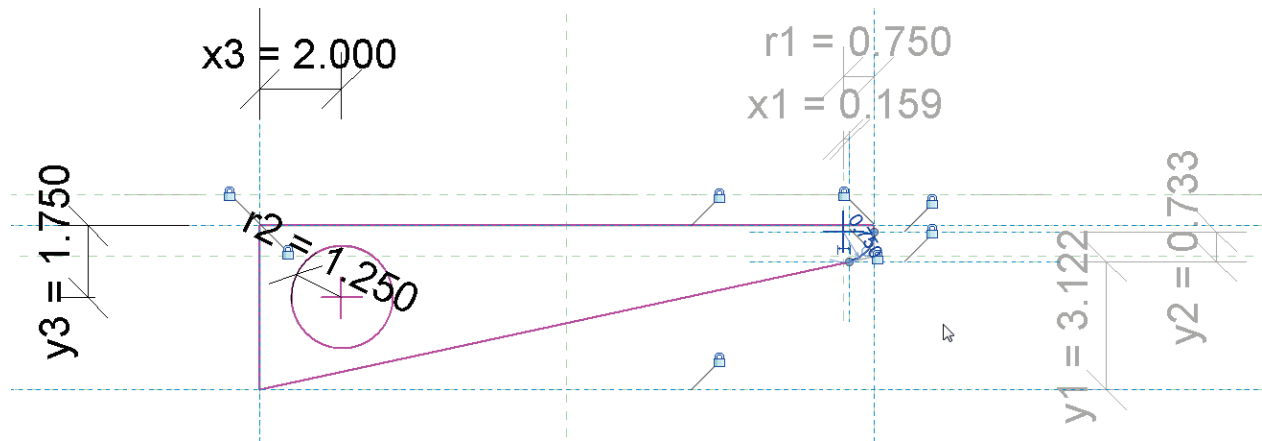

Figure 25—Make sure that all sketch lines are aligned and locked. Lock endpoints of curves and diagonal lines
3. Using the Align tool, lock the endpoints of the curve in both directions to the Ref Planes. Also lock the endpoints of the diagonal line. The other lines are locked already (see Figure 25).